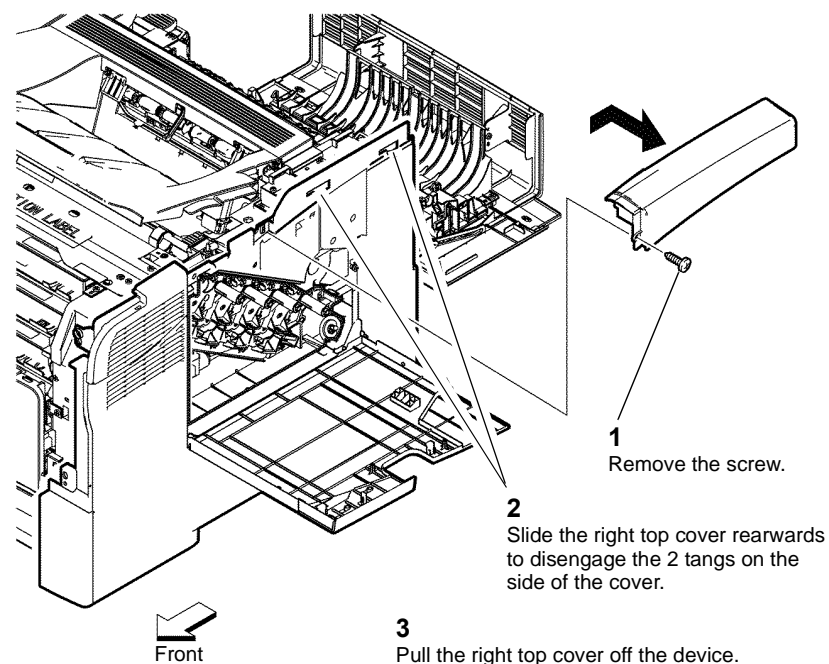

Figure 1 Top right cover C400
3. Remove the top right cover, Figure 1.